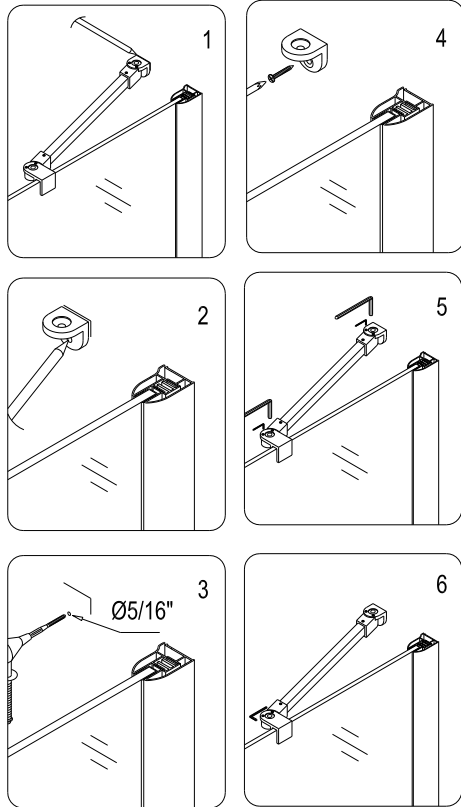

fig. 13
11. Locate the **Support bar (12)** and loosen the glass holding screws on the gliding channel. Place the **Support bar** with the channel end on the glass top edge and the bracket end flat on the wall. Adjust the bar to a proper position and level it horizontally. Hold it firmly and outline the bracket's position on the wall with a pencil. Take off the **Support bar** and remove the bracket from it. Place the bracket against its position on the wall and mark the hole for drilling. Drill the hole, insert the anchor and attach the bracket onto the wall with the **Screw ST4.2x30 (15)**. Replace the **Support bar** with the channel seated on the glass and the other end underneath the bracket. Attach it to the bracket with the set-screw provided. Straighten the bar and fasten both set-screws and the glass holding screw to secure the glass. See fig.13 for details.